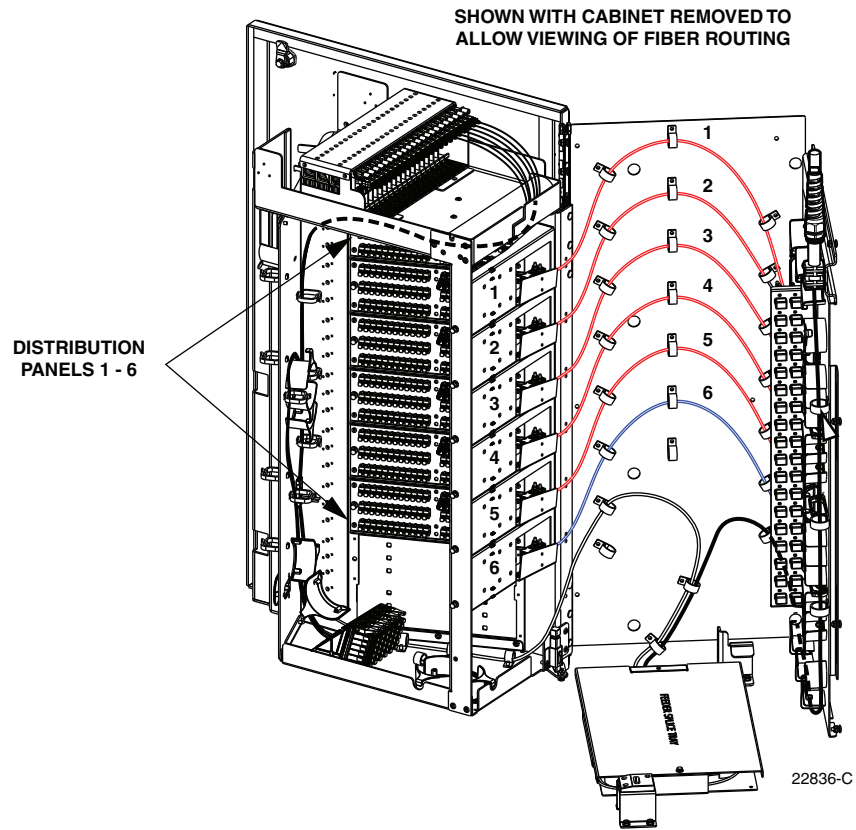

Figure 68. Distribution Cable Fiber Routing
6. Locate the adapters on the bulkhead adapter panel that correspond to the distribution panel being installed. The layout of the adapter panel is shown in Figure 68.
7. Route the distribution panel subunit fibers to the appropriate adapter on bulkhead adapter panel as shown in Figure 68.